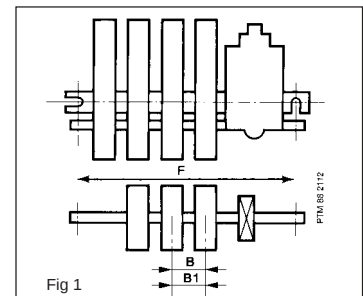

Fig 1
(1) 3-pole O/L relay used in conjunction with a 4-pole contactor: the 3 magnetic protection blocks are aligned with the 3 main poles to the R.H.S. of the contactor. It is therefore advisable that the L.H.S. main pole is used for the Neutral (fig. 1).
(2) The rating of the Neutral pole of the RKR 9.. O/L relay is one size below the main phase rating. The Neutral pole is mounted on the L.H.S.
In this later case, replace letter D by letter T in the type designation (example: RKR 3 AHDM 110) and quote figure 2 instead of figure 1 for the 7th position within the Order Code.
(1) 3-pole O/L relay used in conjunction with a 4-pole contactor: the 3 magnetic protection blocks are aligned with the 3 main poles to the R.H.S. of the contactor. It is therefore advisable that the L.H.S. main pole is used for the Neutral (fig. 1, page 4/6).
(2) The rating of the Neutral pole of the RKR 9.. O/L relay is one size below the main phase rating for relays rated from 1 to 1000 A.
In this later case, replace letter **D** by letter **T** in the type designation (example: RKR 3 CHTM 110) and quote figure 2 instead of figure 1 for the 7th position within the Order Code.